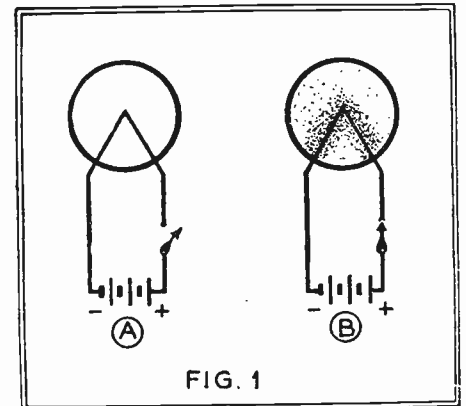

FIG. 1
Before continuing with the discussion on regeneration, the wiring diagram of a regenerative receiver will be considered. Fig. 1 shows the circuit of a simple "three-circuit tuner" (more properly "two-circuit") in schematic form; this represents what was once one of the simplest, most popular and most frequently-used receivers. It is easy to operate, as there are only two tuning controls, and it provides amplification which is practically equal to that of a two-stage tuned R.F. receiver with a non-regenerative detector. Of course, the overpowering disadvantage of this system of reception is that, when it is not properly operated, it will oscillate and the radiated energy from the antenna will interfere with reception in nearby receiving sets. For that reason, operation of an oscillating regenerative set is in some places punishable by law; and might be in this country under the Radio Act.
cation, which prevents radiation from the antenna. The essential piece of apparatus is the three-coil coupler (L1). This consists of a primary coil (P) of a few turns which is connected directly in the antenna circuit or preceding R.F. circuit, a secondary coil (S) tuned to the desired wavelength by a variable condenser (C), and a tickler coil (T). The primary and secondary coils are usually wound on the same tube form and are coupled "tightly." The tickler coil is found on a separate tube, and the coupling between the secondary and the tickler is adjustable by rotating the tickler on its shaft. As may be seen from the diagram (Fig. 1) the secondary is connected in the grid circuit of the receiver and the tickler is connected in the plate circuit. By adjusting the coupling of the tickler the feed-back or regeneration may be increased.
From the diagram it will be seen that energy from the antenna circuit is transferred to the grid circuit in exactly the same way as in Fig. 1; that is, the primary coil (P) of the antenna coupler (L1) is connected between the aerial and ground, and the secondary coil (S) is connected
In operating this receiver the grid circuit was tuned to the wavelength of the desired station, and the variometer employed to control regeneration. As the wavelength of the variometer was adjusted to approach the wavelength of the grid circuit, the regeneration increased. This is because the alternations in the plate circuit were forced to return to the grid circuit through the small *capacity* (condenser) formed by the close proximity of the grid and plate elements of the tube. Of course, in this circuit regeneration would produce an effect upon the signal identical with that obtained by using the circuit in Fig. 1. Also, regeneration would cease and the tube breaks into oscillations when the feed-back passed a certain critical value.
There are three basic ways in which regeneration may be produced in a radio receiver; the first two are illustrated in Figs. 1 and 2, and the third in Figure 3. The last is popularly known as the Reinartz circuit, as it was first introduced for the reception of short-wave "C.W." signals by the well-known amateur experimenter, John L. Reinartz. This circuit, which employs a combination of inductive and capacitive feed-back methods, has been found excellent for the reception of continuous-wave (code) signals but is not as satisfactory for the reception of phone signals as the two circuits previously described. It is only one of a number of different circuits which use this system of regeneration, but is probably the best known of its type.
In this circuit the grid and antenna circuits are arranged in much the same way as in Figs. 1 and 2; the chief difference being that the primary coil (P) and the secondary coil (S) of the coupler (L1) are coupled together conductively as well as inductively. However, the plate circuit is very different. First, it will be noticed that there is an R.F. choke coil connected between the plate of the tube and the phones. This prevents the R.F. current from being short-circuited through the phones to the filament. Next, it may be seen that there is a wire which connects the plate of the tube to one end of the plate coil (T) of the coupler, and that the other end of the plate coil is capacitively coupled to the primary and secondary coils through the variable condenser (C2).
Before concluding this article, it should be pointed out that there is another entirely satisfactory method of obtaining the beneficial effects of regeneration, and known as the Roberts circuit (see Fig. 6). In this circuit a stage of neutralized radio-frequency amplification is combined with a regenerative detector of the type in Fig. 1. Only two tubes are used in the circuit, yet the results will be equally satisfactory from which may be secured with a three-tube circuit of the type shown in Figs. 4 and 5.
example, evaporates slowly but, as it is heated, more and more evaporates; and finally there is violent "ebullition" (boiling) and the water becomes steam and passes into the atmosphere. The action of evaporating water and the escape of particles of matter from a heated filament are very similar. (See Fig. 1.)
The chief cause of the fundamental-frequency hum (let us say 60-cycle, 110-volt power is being used) is what is called the grid-and-plate effect. By this is meant the effect of the A.C. filament voltage upon the plate and grid respectively when the grid return and "B—" are connected to one side of the filament, as shown in Fig. 1. S is the low-voltage secondary of a transformer supplying the current necessary to heat the filament. This supply is alternating and therefore voltages at the filament terminals, A and B, are constantly alternating, plus and minus. Since the average voltage of the filament is one-half the applied voltage, then C, the center of the filament, is at a constant potential with respect to the terminals collectively. For when C is positive with respect to B, it is positive with respect to A, and *vice versa*; always by the same amount.
Fig. 1 is a circuit which will let through the A.C. hum. In Fig. 2A is a Wheatstone bridge, illustrating the principle of the circuit in 2B which remedies this fault. Fig. 3 illustrates the elements of the A.C. tube.